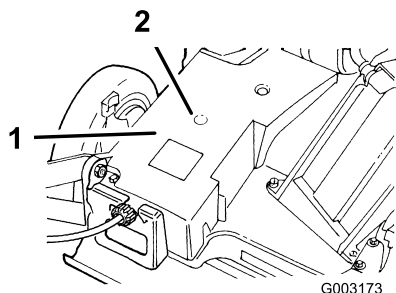

Figure 24
2. Install a grease gun onto the fitting through the belt cover opening (Figure 24).